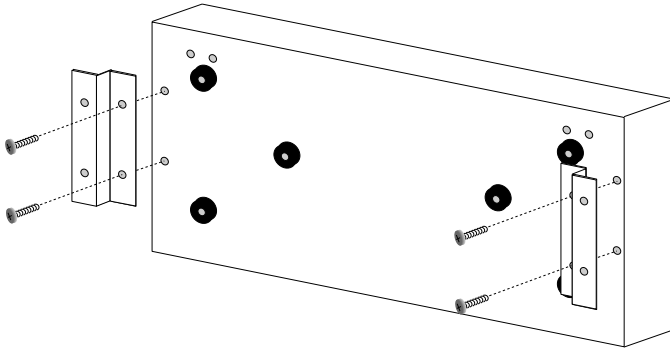

Figure 3-4. Installing the Wall-Mounting Brackets
1. Use the provided 3/8" screws to attach the wall-mounting brackets to the bottom of the STHI as shown in Figure 3-4. There are two brackets, one for each side.